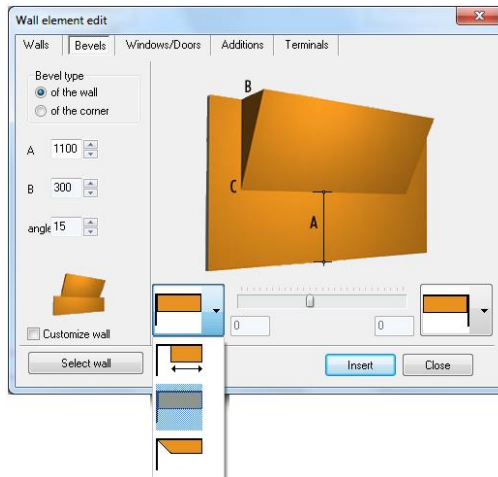

Fig. 85 – inserting the bevel of the wall
- click on the icon **Walls**  and go to **Bevels** tab in the newly open dialog (Fig. 85).